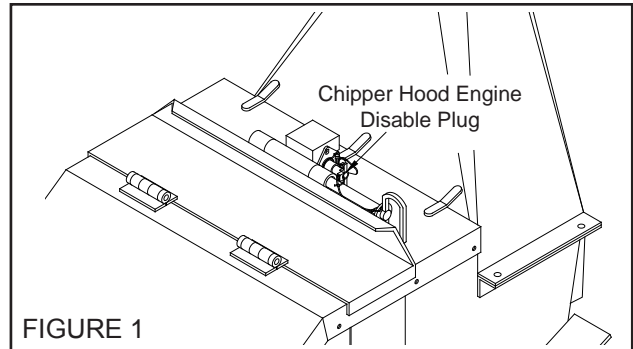
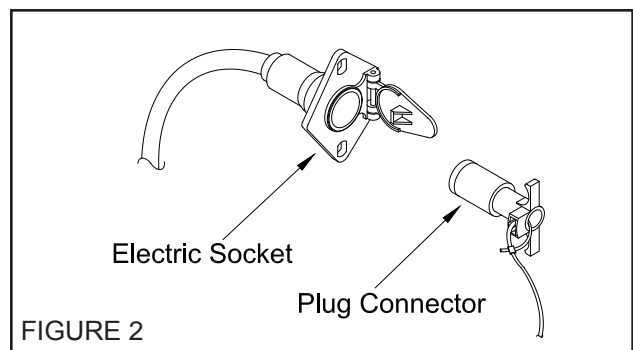
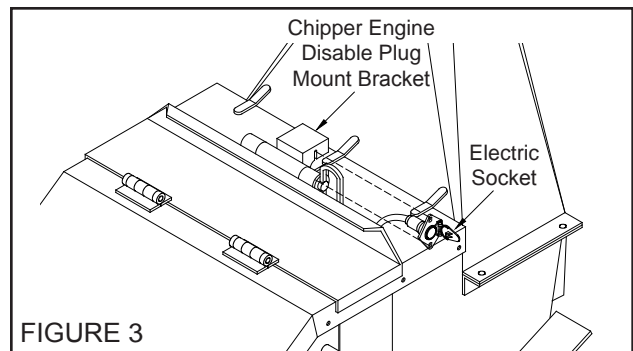

FIGURE 1
FIGURE 2
FIGURE 3
Install the cable to pull and feed from the bottom of the winch drum (see Figure 2). Remove excess bolt length on cable bolts after cable is secured to the spool.
5. Make sure everyone is clear and then retract the clutch lock pin and then pull the clutch handle up to engage the winch clutch (see Figure 1). Make sure the handle is locked in position.
The chipper hood engine disable plug is located on top of the chipper hood (see figure 1). The chipper engine disable plug is made up of two parts: an electric socket and a plug connector (see figure 2). The electric socket is bolted to the chipper engine disable plug mount bracket (see figure 3) and the plug connector is attached by a cable to the hood pin (see figure 4).